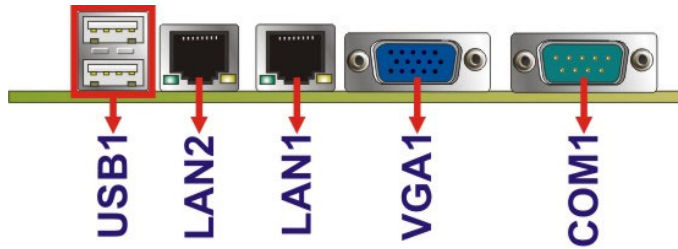

Figure 3-21: External Peripheral Interface Connector
- CN Location:** See **Figure 3-21**
- CN Location:** See Figure 3-21